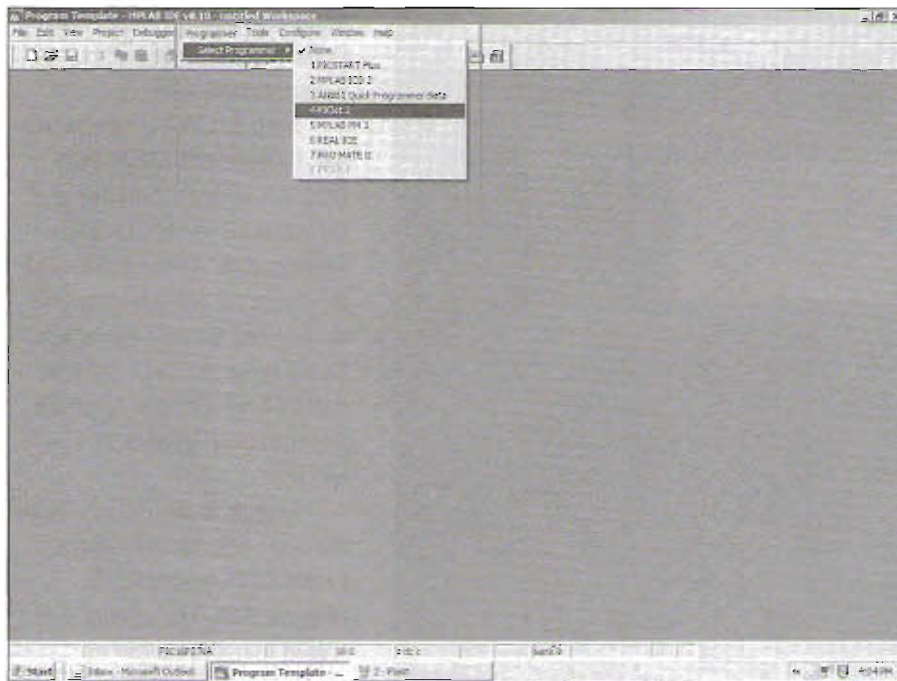
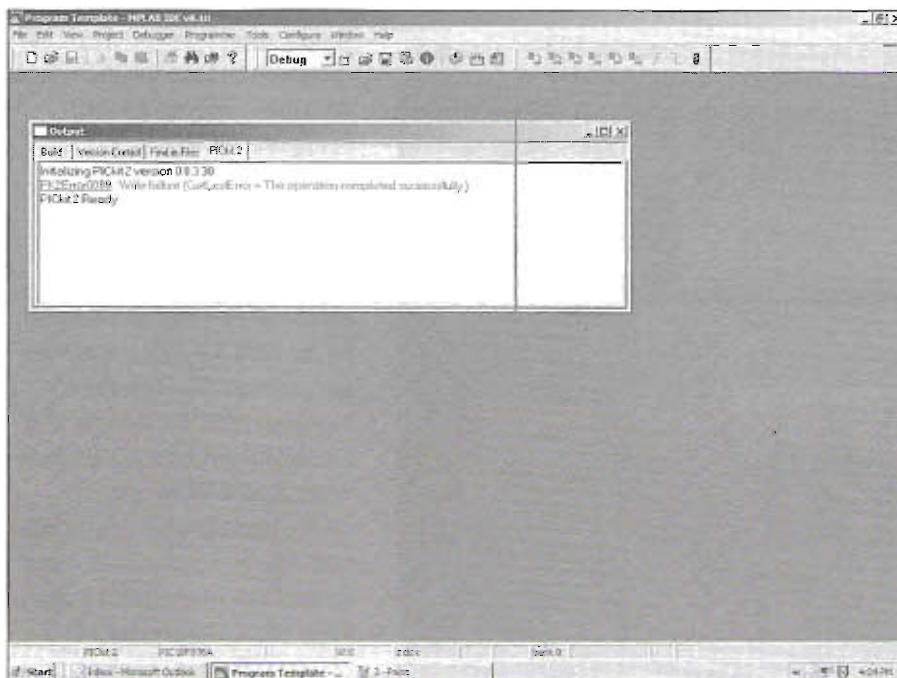

Figure 5-4 — Click on PROGRAMMER/SELECT-PROGRAMMER/PICKIT 2.
Figure 5-5 — This error message will appear when you do not have the programmer connected. Do not be concerned.
Step 4. The next few steps do not have to be done in a specific order, but for now, follow the order presented here. In this step you will be telling *MPLAB IDE* the type of MCU programmer that you will be using to ultimately program the device. You are using the *PICKit 2* programmer. On the menu bar: click on **PROGRAMMER /SELECT-PROGRAMMER/PICKIT 2** (Figure 5-4). Do not be concerned if you get an error message dialog box upon selecting *PICKIT 2*. Once you make this selection, *MPLAB IDE* will try to connect to the selected programmer, and if you do not have the programmer connected to the USB port of your computer, the error message will result (Figure 5-5). You can develop and test programs without the programmer attached